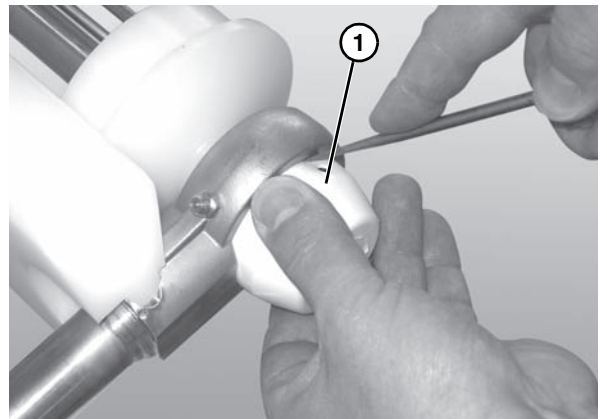

Figure 73
3. Remove the bearing cover (**Figure 73, item 1**).